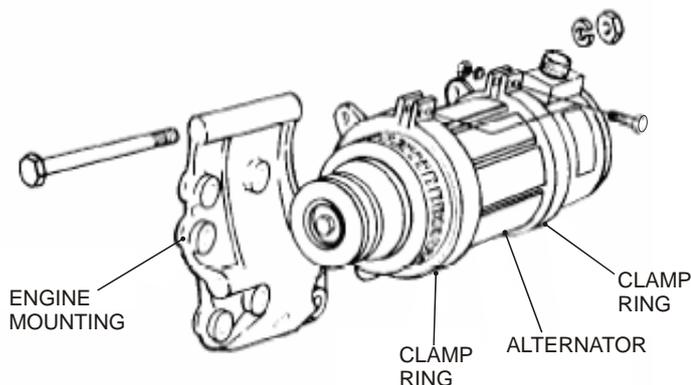

Figure 5 Alternator – Installation
- a. Fit the two clamp rings on the alternator and install the four bolts, nuts and washers, but do not tighten at this stage (Figure 5)